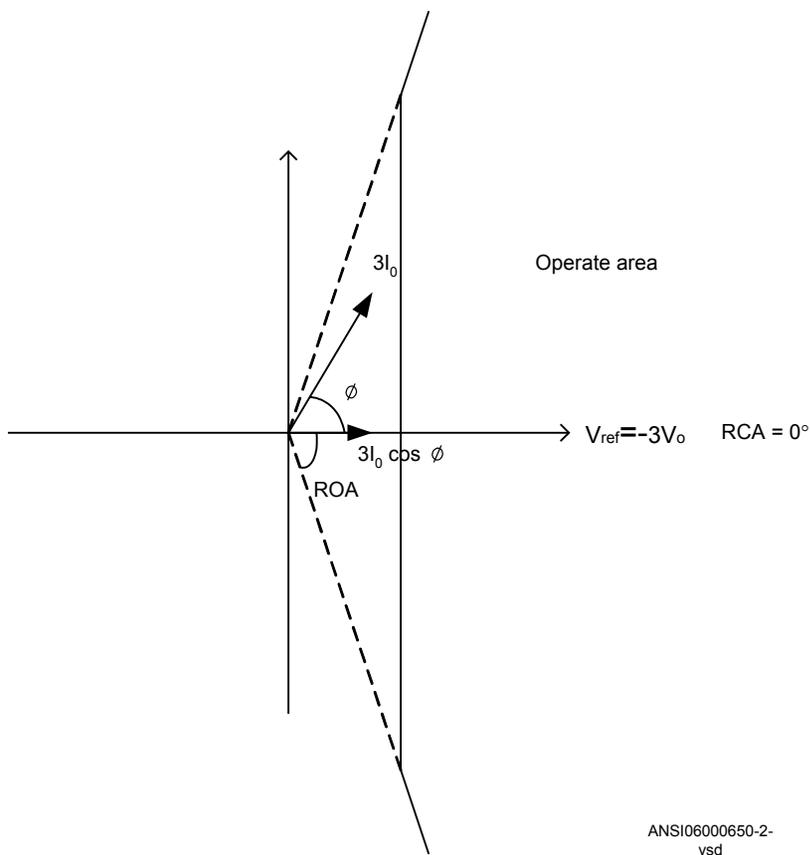
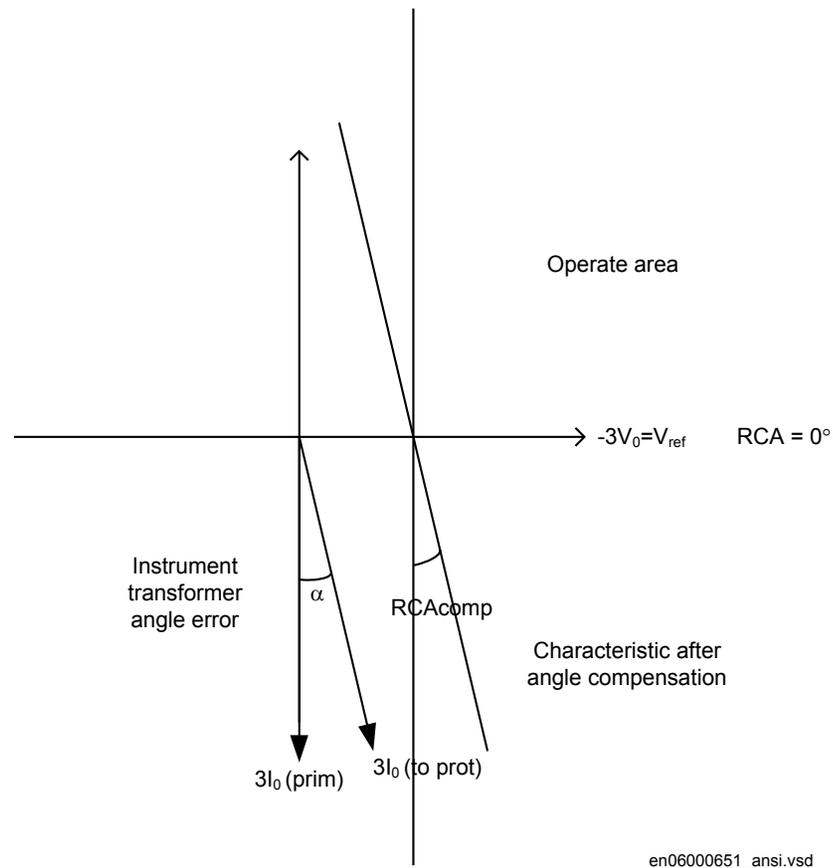

Figure 71: Characteristic with ROADir restriction
Figure 72: Explanation of RCAcomp
4. Compare the result with the set value. Take the set characteristic into consideration, see figure 71 and figure 72.